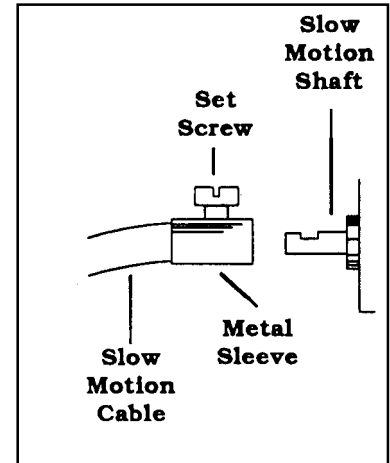

Figure 1-3
1. Thread the counterweight bar (16) clockwise into the declination axis of the equatorial mount. Slide the counterweight over the counterweight bar and lock down the screw on the side of the counterweight.
2. Locate the declination slow motion control (7) and attach to the mount by tightening the set screw on the control cable. See Figure 1-3. The set screw should be tightened down hard on the flat surface of the cable holder after